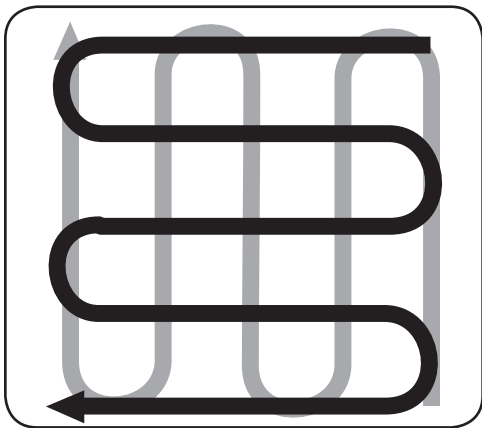

Figure 4-7
- When finished in one direction, make a second pass at a right angle, as shown in Figure 4-7. Overlap each pass for best results (in very hard ground, it may take three or four passes to thoroughly pulverize the soil.)